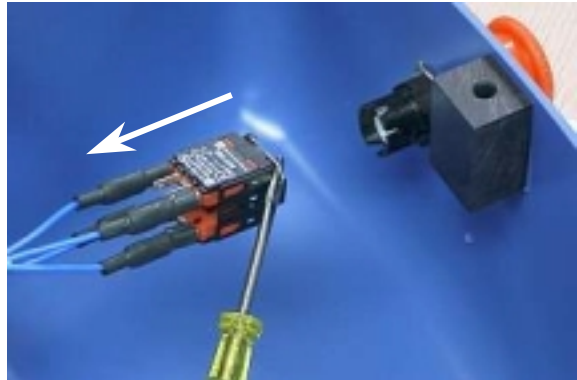

fig. 8
5. The emergency stop contactblock can be removed using a little screwdriver which can inserted below the clamping spring and the contact block. See the arrow on figure 8.